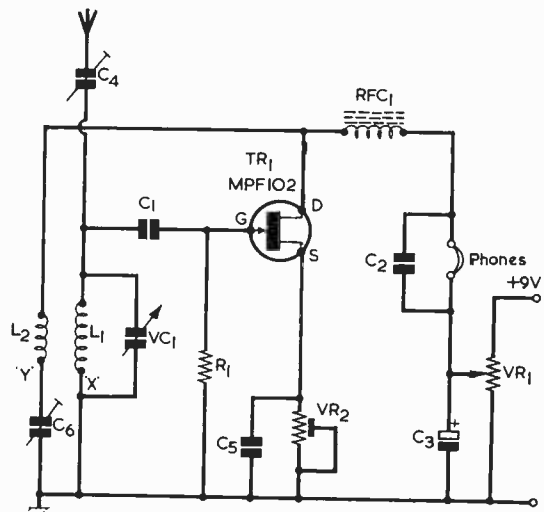

Fig. 4. A variation on the circuit of Fig. 3
R.F. Choke (Fig. 4 only)
Yet another variation is shown in Fig. 4 and here